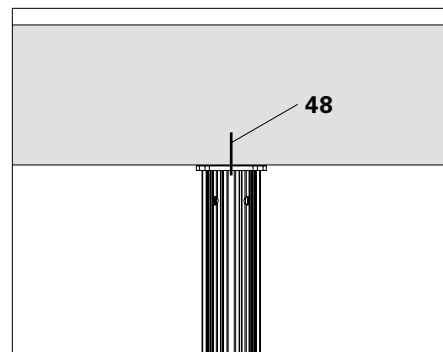

Fig. B1.05d
4. Secure the head of the MULTIPROP MP (44/45) in position in the concrete slab with Dowels  $\varnothing 12$  (48). (Fig. B1.05d)